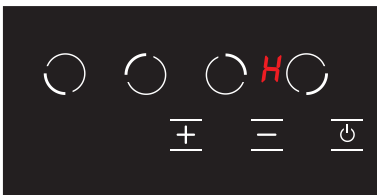

Figure 23
4. Unit switches to stand-by mode after these procedures. However, the **H** icon shall be displayed in case of a hot hob even if the unit switches to stand-by mode. (See Fig. 23)